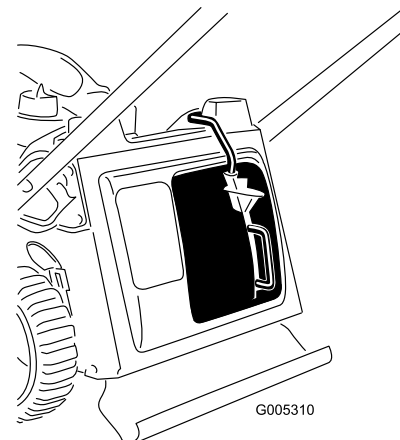

Figure 9
3. Release the button on the lever and ensure that the top of the lever is lies fully in the switch channel (Figure 9). **If the top of the lever is not in the switch channel, your mower will not start!**